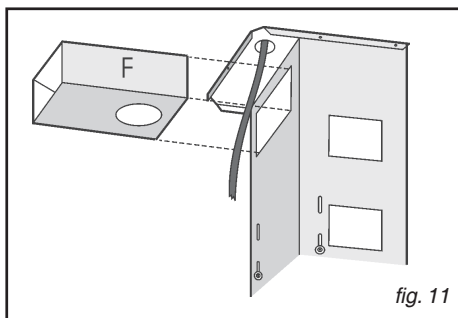
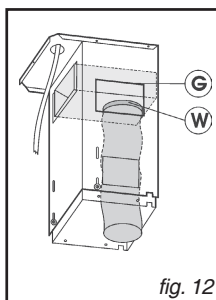

fig. 11
fig. 12
- Insert the air baffle (F) into the structure (Fig.11) Through the openings G (Fig. 12), fit the flange (W) to the baffle (F) and lock it with a rotary movement. Fit a flexible hose (125 mm diameter) to the flange (W) for air evacuation (Fig. 12).